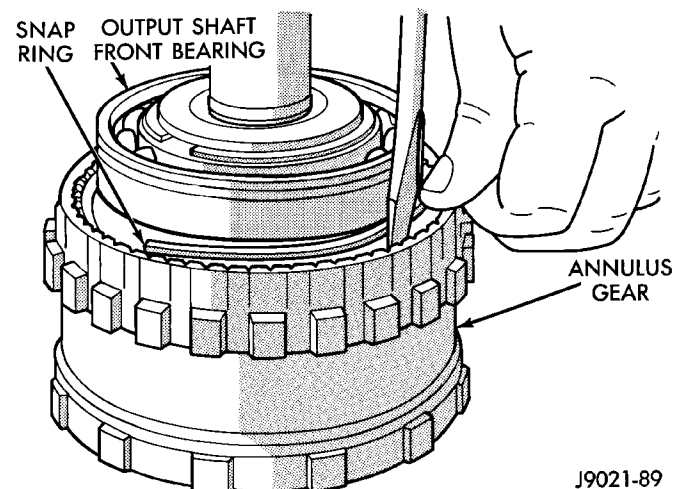

Fig. 222 Annulus Gear Installation
(3) Install annulus gear on output shaft, if removed. Then install annulus gear retaining snap ring (Fig. 222).